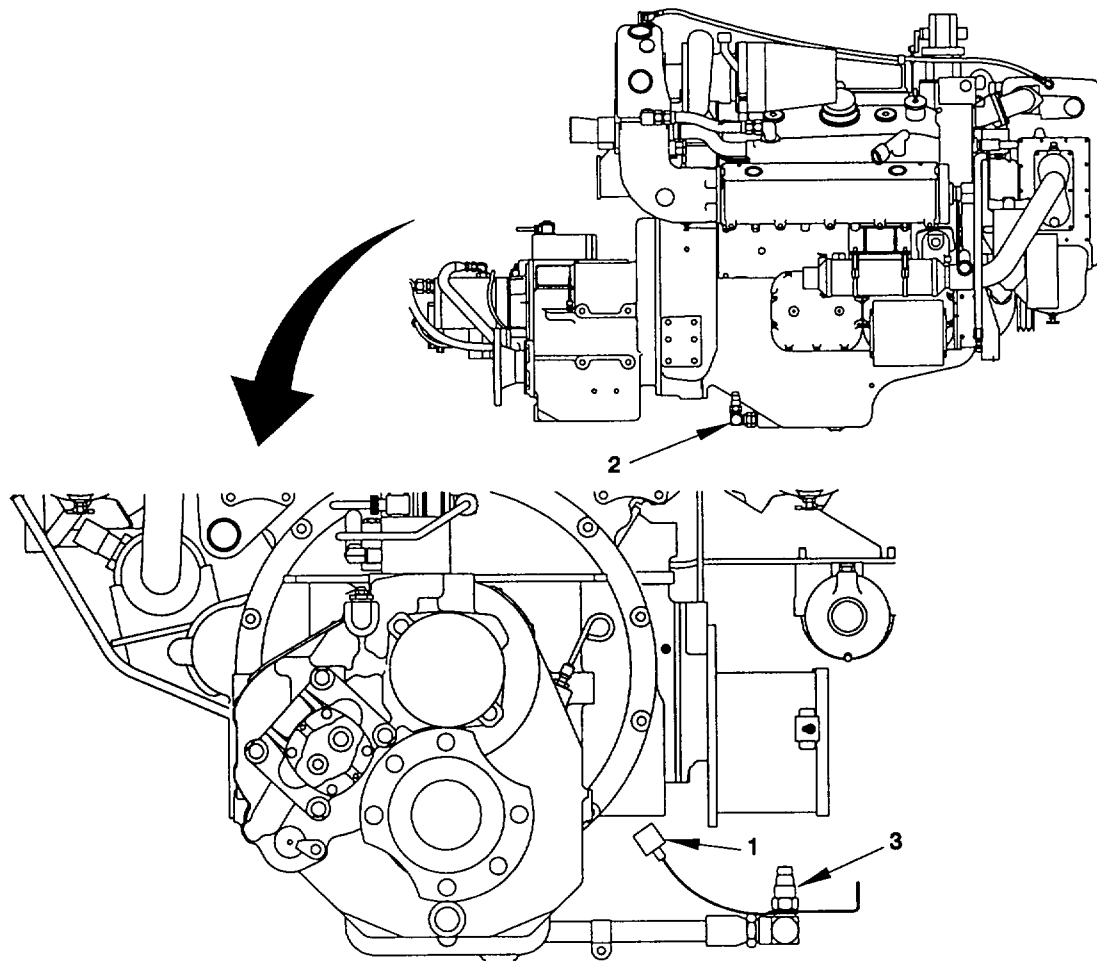

Figure 2-6. Crankcase, Service.
a. Service. (figure 2-6).
- (1) Position fast lube system evacuation unit sufficiently close to fast lube oil change system (FLOCS) to reach it with evacuation unit's hose.
- (2) Remove dust cap (1) from coupling half (3).
- (3) Connect evacuation unit quick disconnect coupling half (2) to matching coupling half (3) of fast lube system.